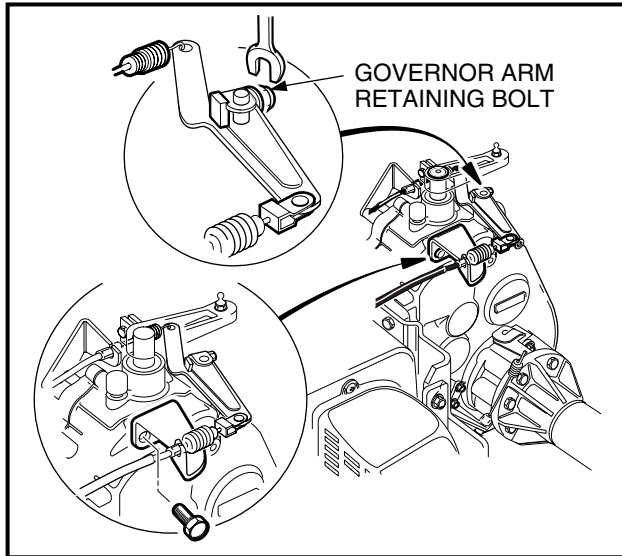

Figure 16-35 Governor Arm and Cable Bracket
18. Loosen, but do not remove, the governor arm retaining bolt. Remove the governor arm from the shaft (Figure 16-35, Page 16-15).
19. Remove screws securing the governor cable bracket to transaxle (Figure 16-35, Page 16-15).